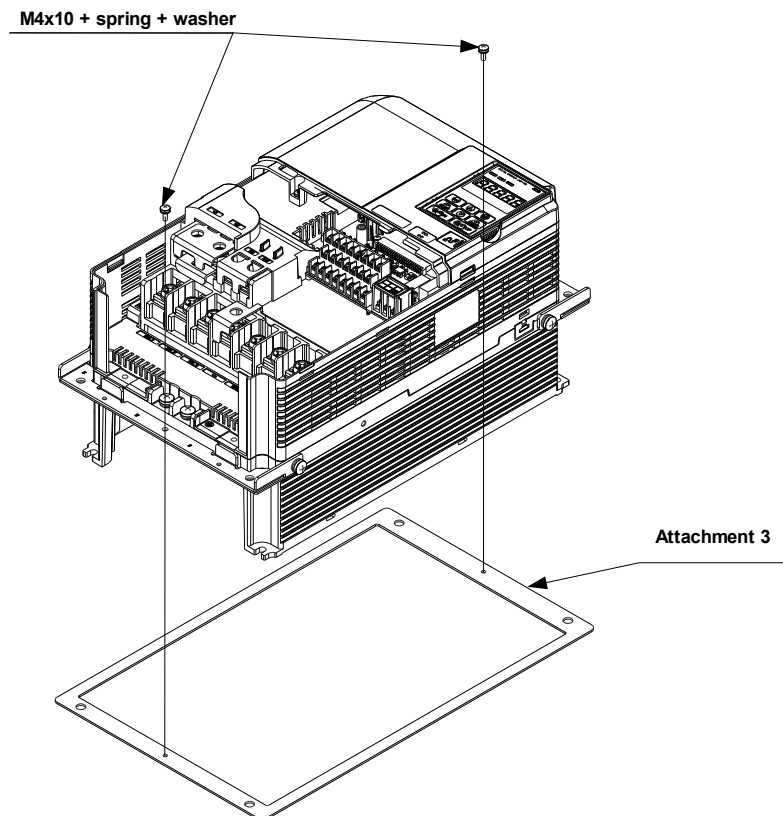

Figure 8: Step 3 - 2A0081
5. Fix *Attachment 3* to *Attachments 1* and *2* (Figure 8). Take care to the correct installation orientation: The wide end (indicated by the arrow in the figure) is for the top size. Use screws M4x10 with spring and washer.